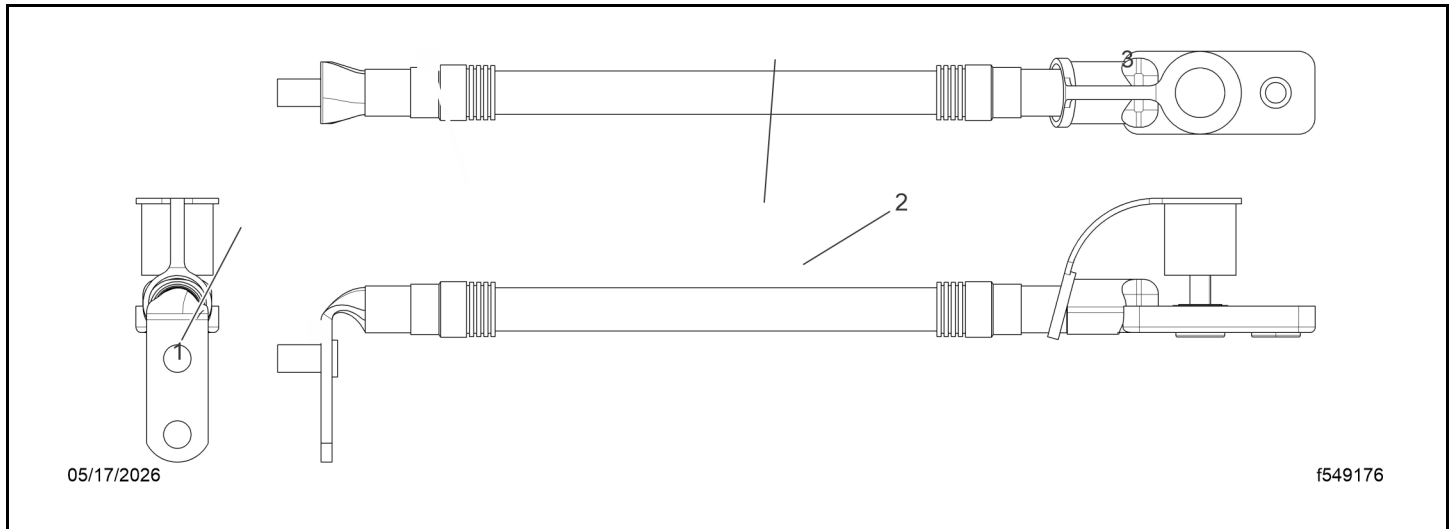

Fig 39, Jump-Start Cable Orientation
- g. Position the new terminal according to the orientation drawing. See Fig. Fig. 39.